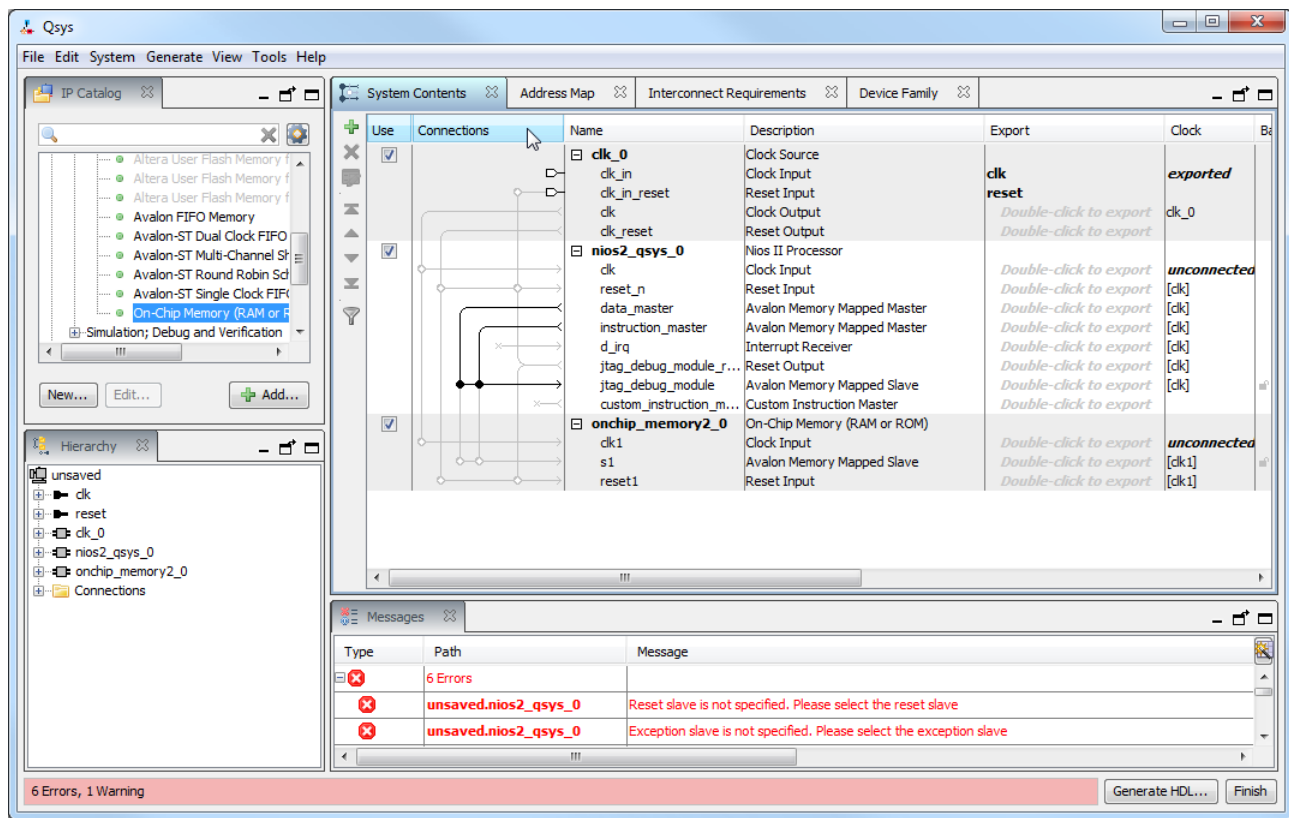

Figure 8. The on-chip memory included on a DE-series board.
- Click **Finish**, which returns to the **System Contents** tab as indicated in Figure 8
6. Observe that while the Nios II processor and the on-chip memory have been included in the design, no connections between these components have been established. To specify the desired connections, examine the Connections area in the window in Figure 8. The connections already made are indicated by filled circles and the other possible connections by empty circles, as indicated in Figure 9.